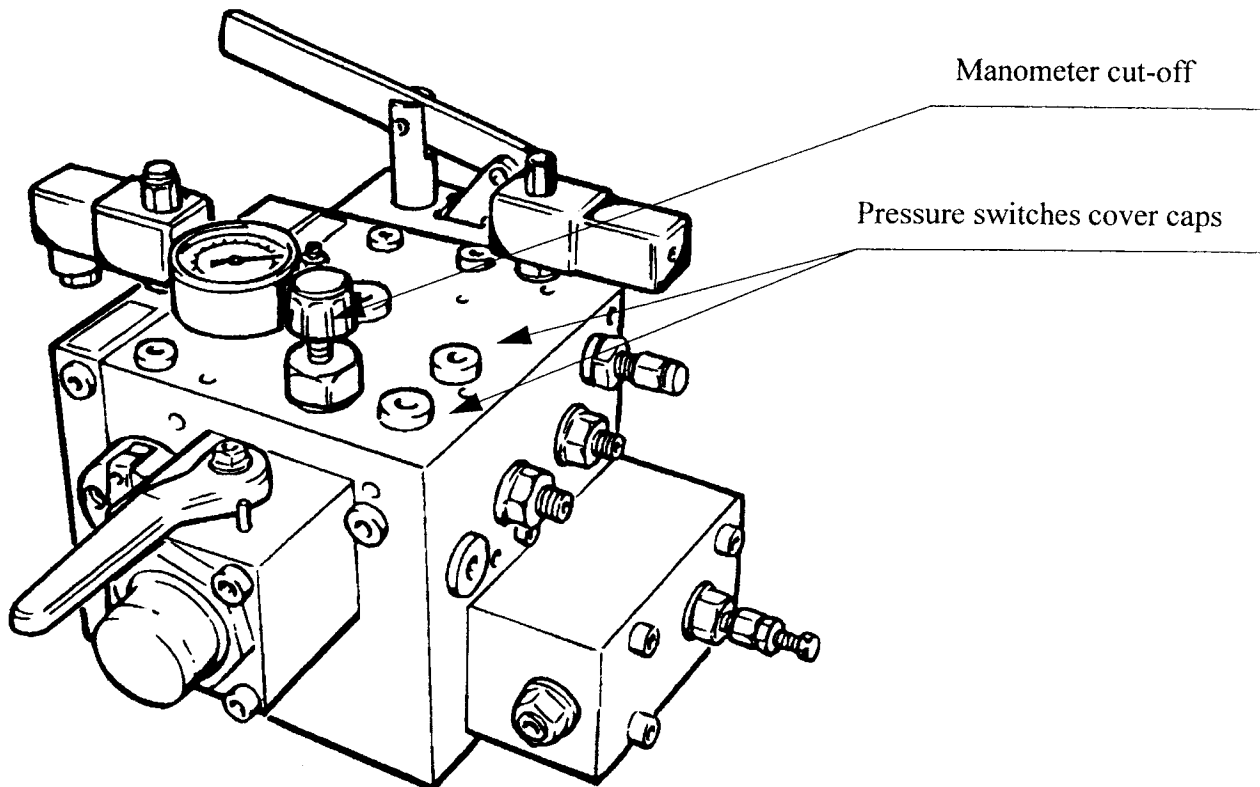

Figure 2: Position of the pressure switches cover caps.
The pressure switches can be installed in the place of both the two caps on the upper face of the H300 valve (see Fig. 2) if more than two pressure switches are needed, use "T" fittings.
- Open the manometer cut off cock (see Fig. 2): the manometer must indicate the static pressure of the lift.